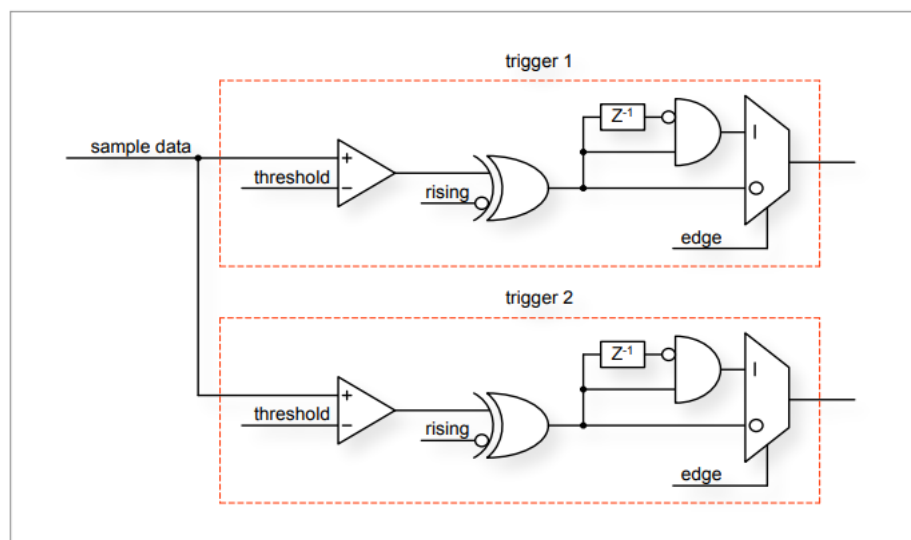

Figure 2.16: From the ADC inputs, a trigger unit creates an input flag for the trigger matrix. Each digitizer channel (A, B, C, D) has two trigger units.
- The 8 trigger decision units of all four ADC channels (Figure 2.16)